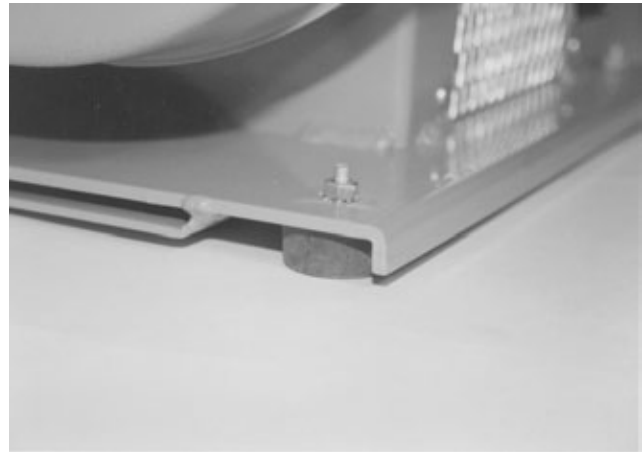

FIGURE 1
2) Open the plastic bag containing the four (4) 1/4 inch diameter x 1 inch long aluminum capscrews and related hardware.
4) Install the lockwasher and aluminum hexagon nut. Using the wrenches, secure the assembly to the frame until snug. Do not over torque the aluminum fasteners. Damage to the fasteners can result. FIGURE 1.